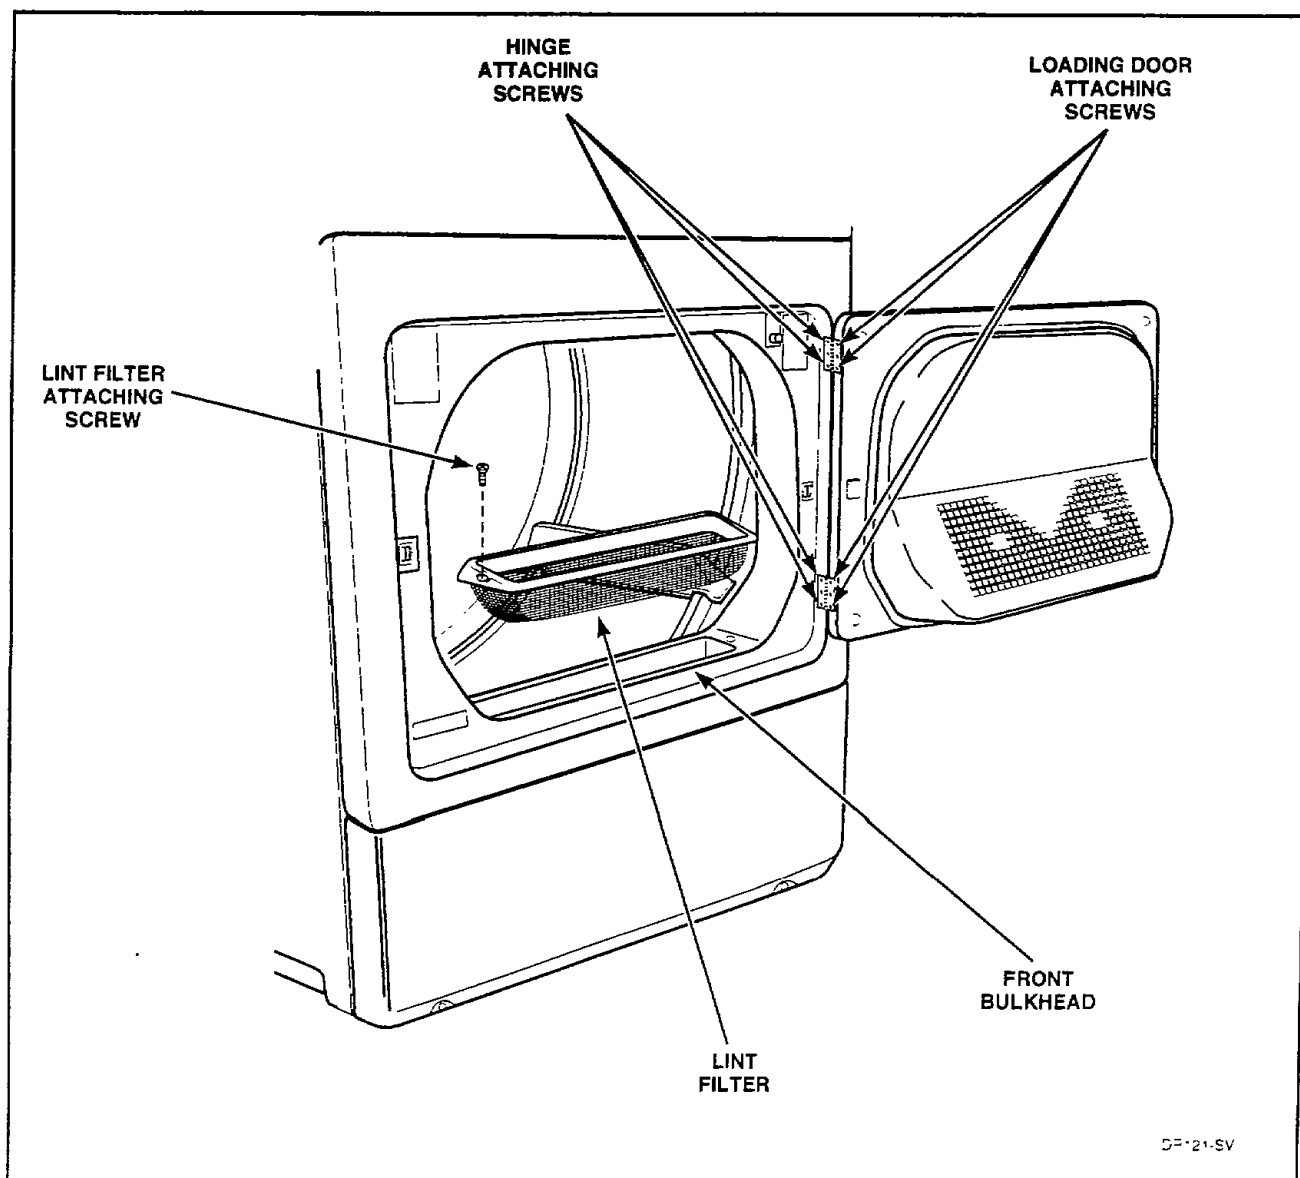

Figure 15
### **15. LINT FILTER (Figure 15)**
- Remove screws holding loading door and hinges to front panel, *Figure 15*.
- Remove four screws holding door assembly to hinges, *Figure 15*.